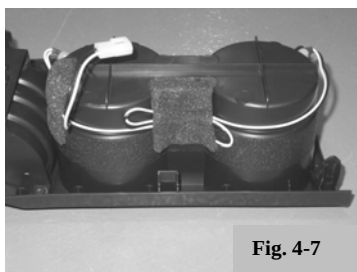

Fig. 4-7
- (3) Bundle excess wire between the (2) LEDs and foam tape the wire bundle toward the outside and between the cup holders as shown. (Fig. 4-7)